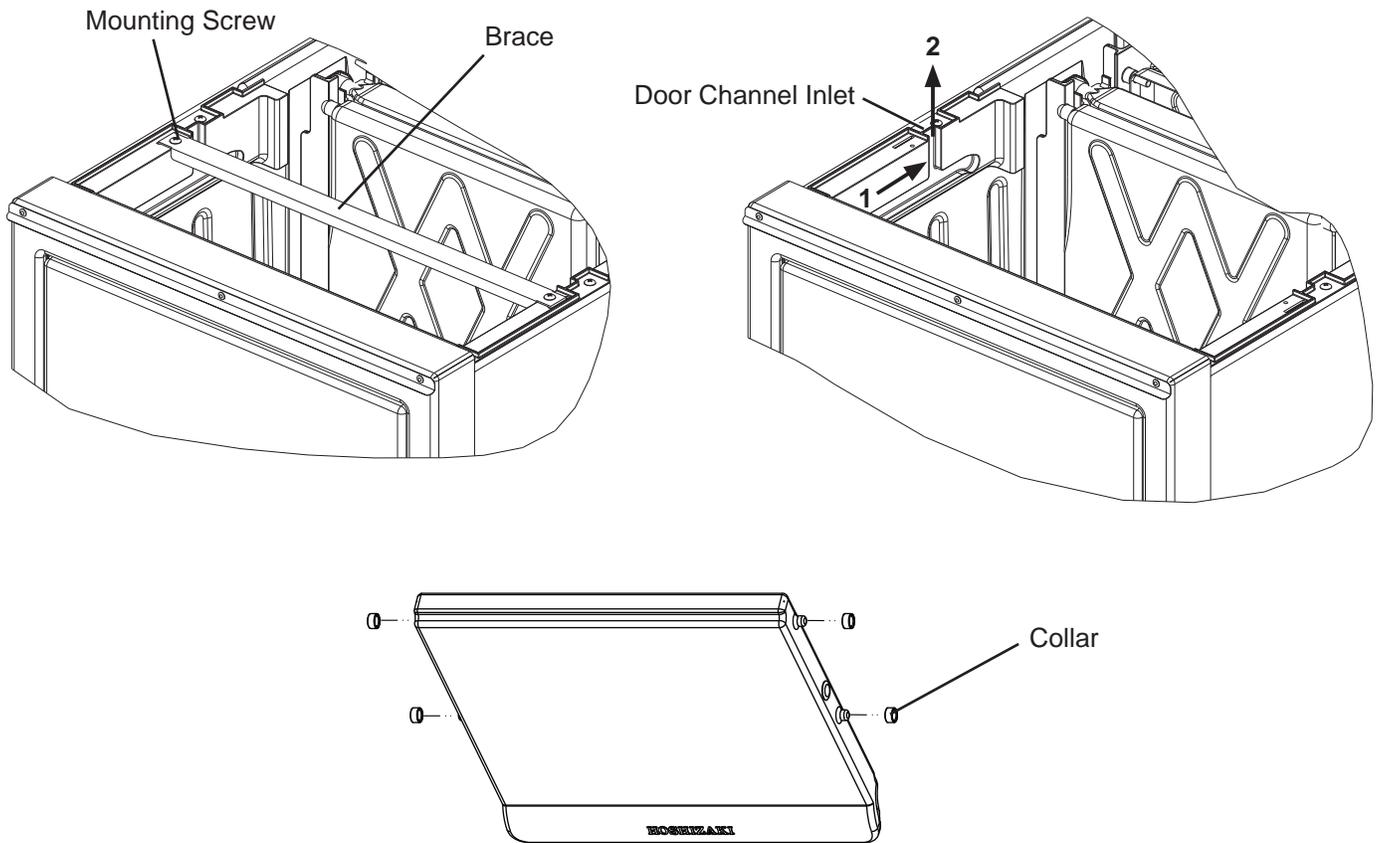

Fig. 21
- 2) Remove the two mounting screws and the brace. See Fig. 21.